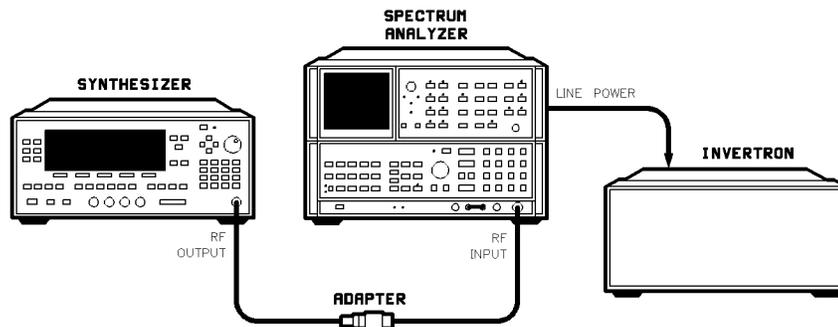

Figure 2-12. Spurious signals (Line-Related) Test Setup
2. Connect the equipment as shown in Figure 2-12. Preset the instruments and let them warm up for at least one hour.